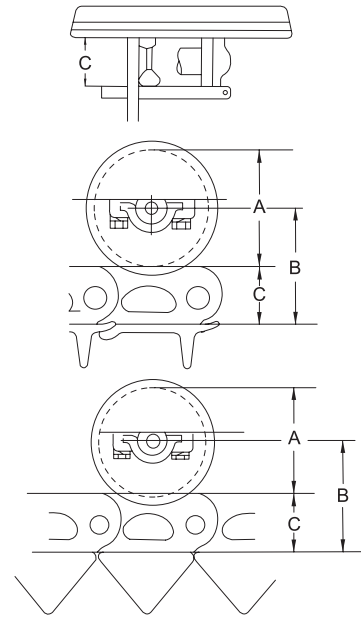

Figure 4-52
2. Measuring outside diameter of track roller (Figure 4-52)